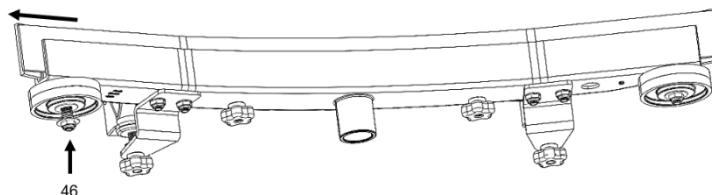

FIG.27
3. Replace or reverse the blades if necessary. The operation is as shown in Fig.27.